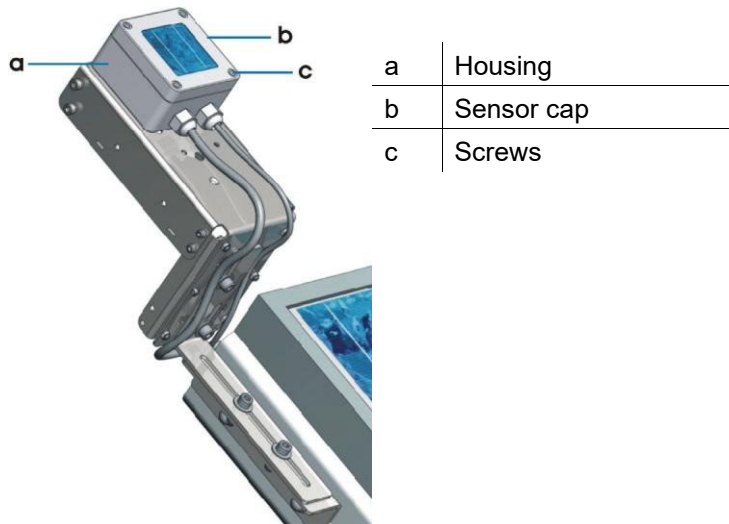

Fig. 37 Reference cell on mounting device
To mount the silicon reference cell, refer to Fig. 37 on p. 42 and follow the steps below:
1. Remove the screws (c in Fig. 37 on p. 42) from the sensor cap (b).